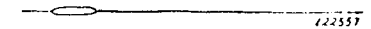

Fig. 8. Threading Wire 164196
**NOTE :** Use Threading Wire 164196, shown in Fig. 8, to pass each thread through its threading tube.